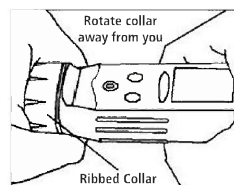

Figure 6:
- 1 With dry hands, grip the ribbed instrument collar with electrode facing you. Twist the collar counter clockwise (see figure 6). Save the ribbed testr collar and O-ring for later use.